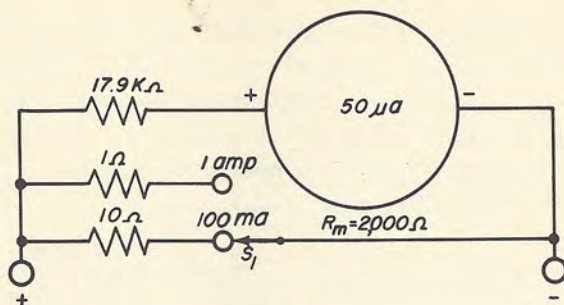

Fig. 11-12
Step 8. Add the 10-ohm shunt to the drawing you made in Step 5. Your drawing should now look like Fig. 11-12.